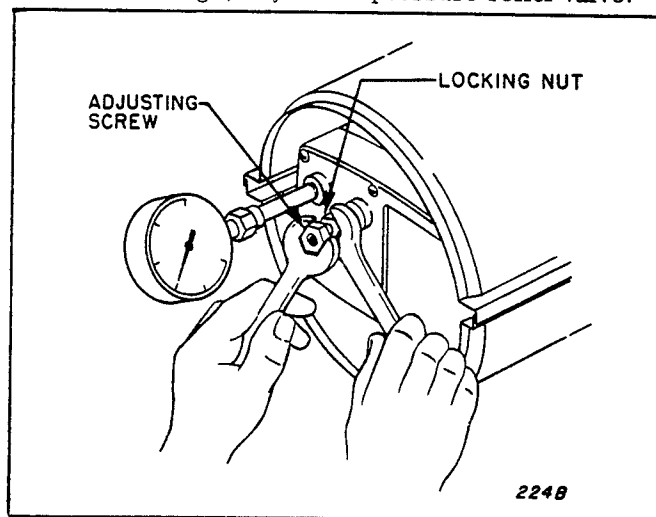

Figure 9. Checking and adjustment of Air Pump Pressure
1. Remove the plug from the air filter housing, and install the pressure gage (listed in paragraph B of this Section) into the hole. See Figure 9.